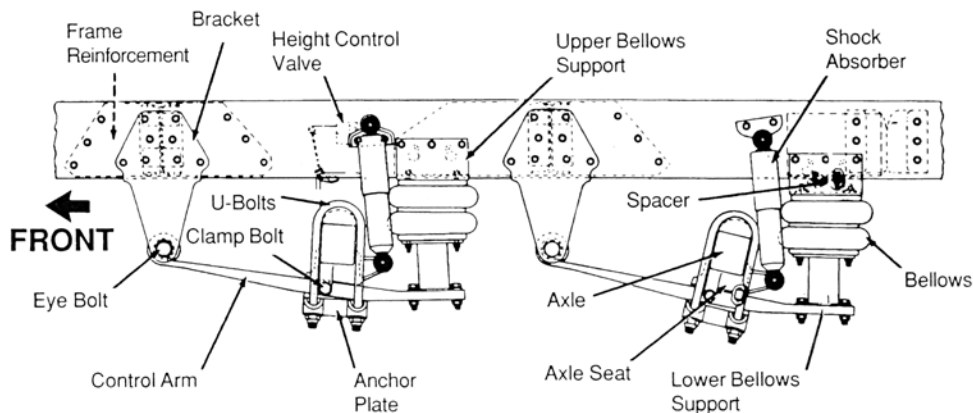

**Figure 2.2**
- Spring hangers that allow movement of the axle from proper position. (See Figure 2.2.)